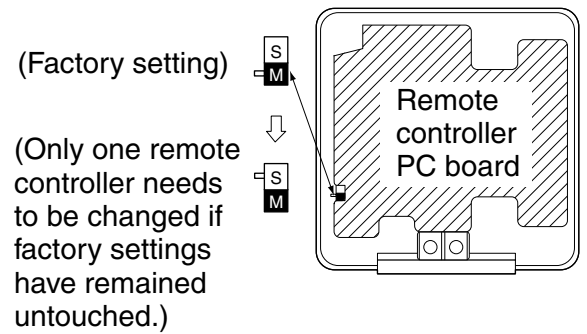

Fig. 27
(2) Turn the **main/sub changeover** switch on one of the two remote controller PC boards to “S”. (Leave the switch of the other remote controller set to “M”.) (Refer to Fig. 27)